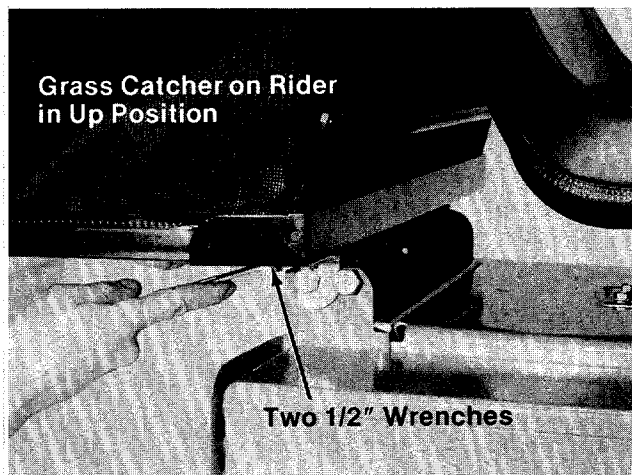

FIGURE 27.
9. Lift the grass catcher all the way up. Have someone hold grass catcher up or block up. Then with two 1/2" wrenches, tighten hinge bracket bolts securely. See figures 27 and 28.